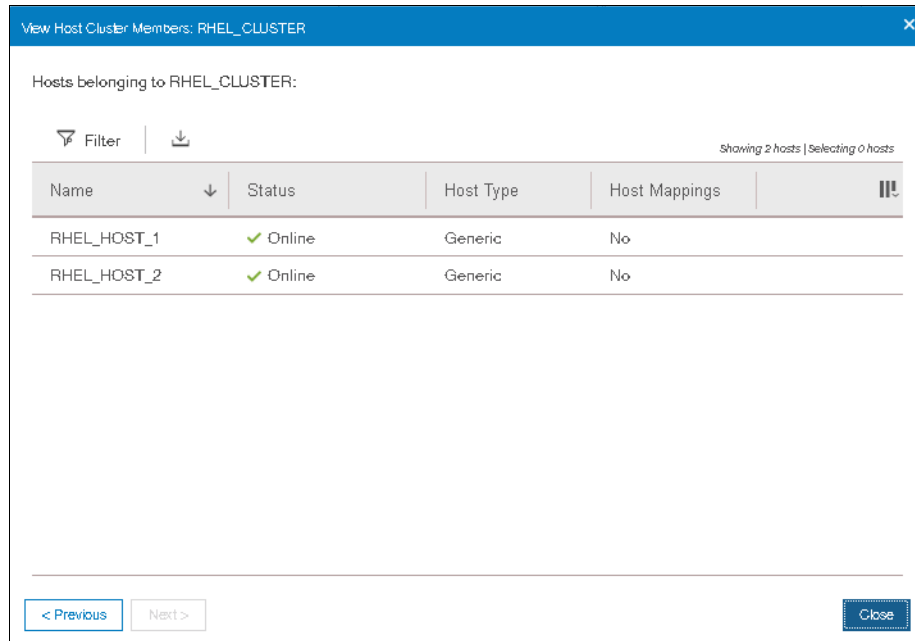

Figure 5-85 Listing host cluster members
- Click **View Hosts** will list the host cluster members as shown in Figure 5-85 on page 252.